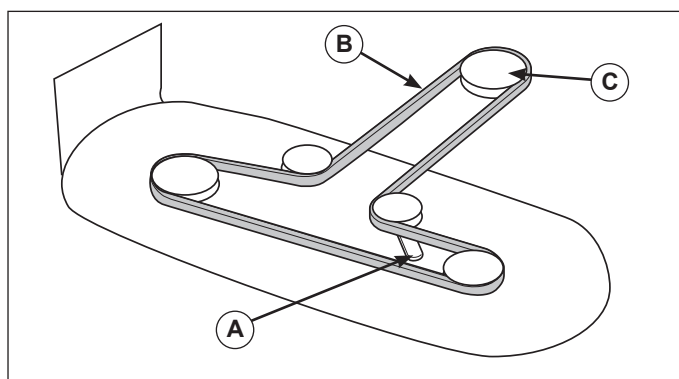

Figure 16. Remove and Install Mower Belt
3. Use the mower belt lever (A, Figure 16) to release belt tension. Remove the mower belt (B) from engine pulley (C).
7. Use the mower belt lever (A, Figure 16) to release belt tension, and install the mower belt (B) as shown.